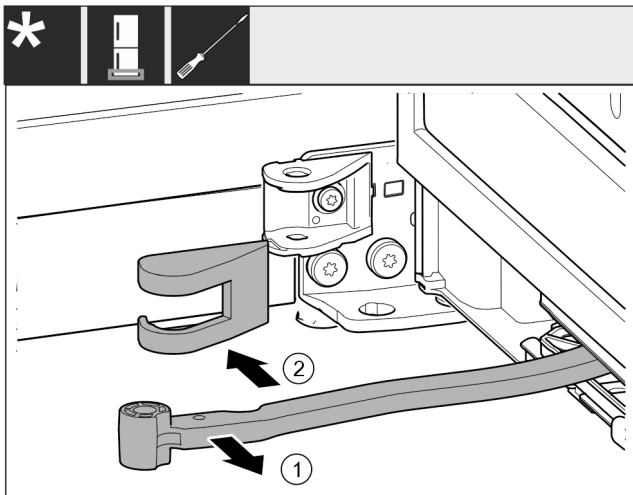

Fig. 15
- ▶ Turn the joint Fig. 15 (1) towards the door.
- ▶ Remove the swap bearing block cover Fig. 15 (2).